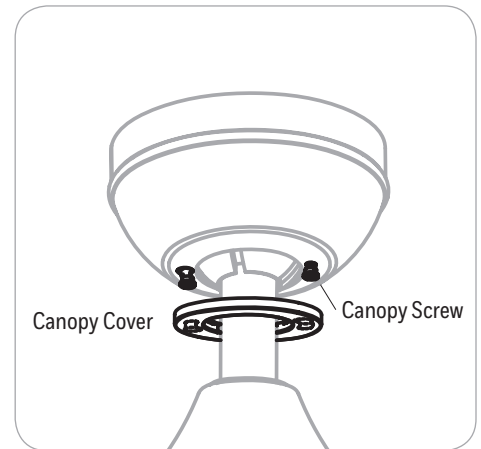

Figure 5.3
3. Lift the key slots in the canopy cover over the heads of the canopy screws preassembled to the mounting bracket. Twist the canopy cover clockwise to lock. (Figure 5.3).